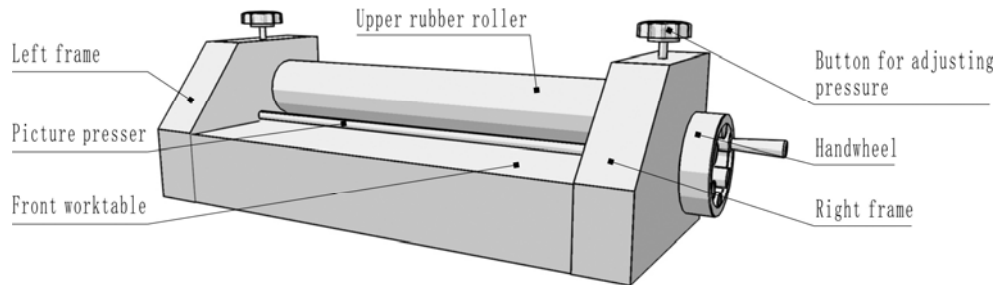

Fig.1
The cold laminator is consists of upper/lower rubber rollers, front/rear worktable, left/right frame, left/right adjusting buttons, a handwheel for rotating the rubber roller, a picture presser (FMJ-1600 series with this presser) and foot-wheels (FMJ-1600 series with the foot-wheels). (See Fig.1)
1. Place the picture flatly. Cut a piece of film with the same width as the picture to be laminated, with the film face upward and put it on the picture. Then roll the picture together with film. Be careful to roll them tidily. Insert one end of the picture/film (rolled together) into the rollers. The head of the picture should be 30cm longer than the rubber roller, (fig.1) put down the rollers. Turn the pressure handwheel to its idle position. (Fig.1-2)